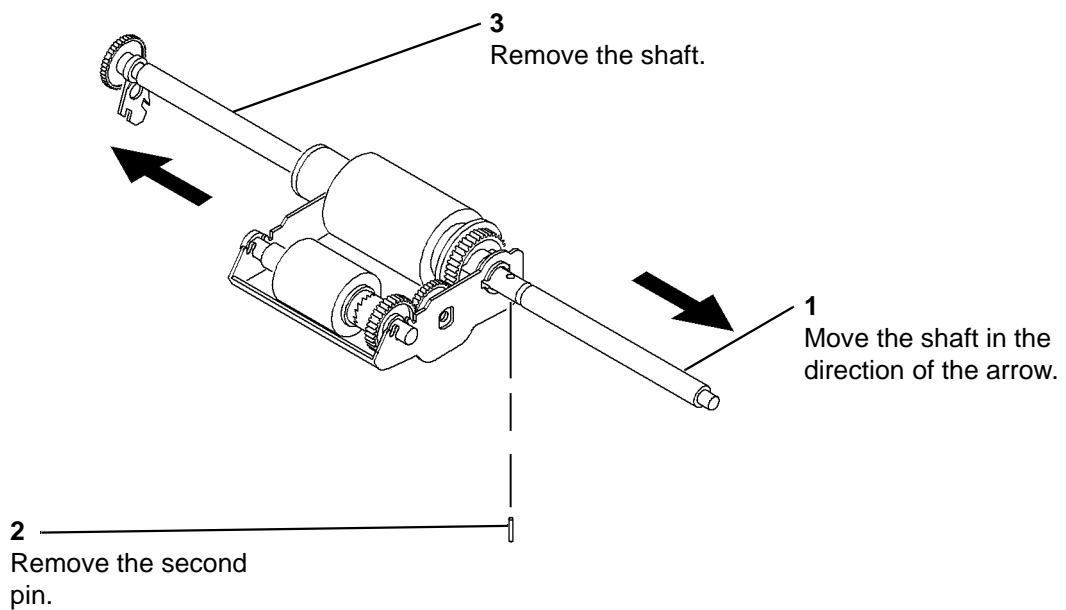

Figure 2 Second pin
3. Remove the second pin, Figure 2.